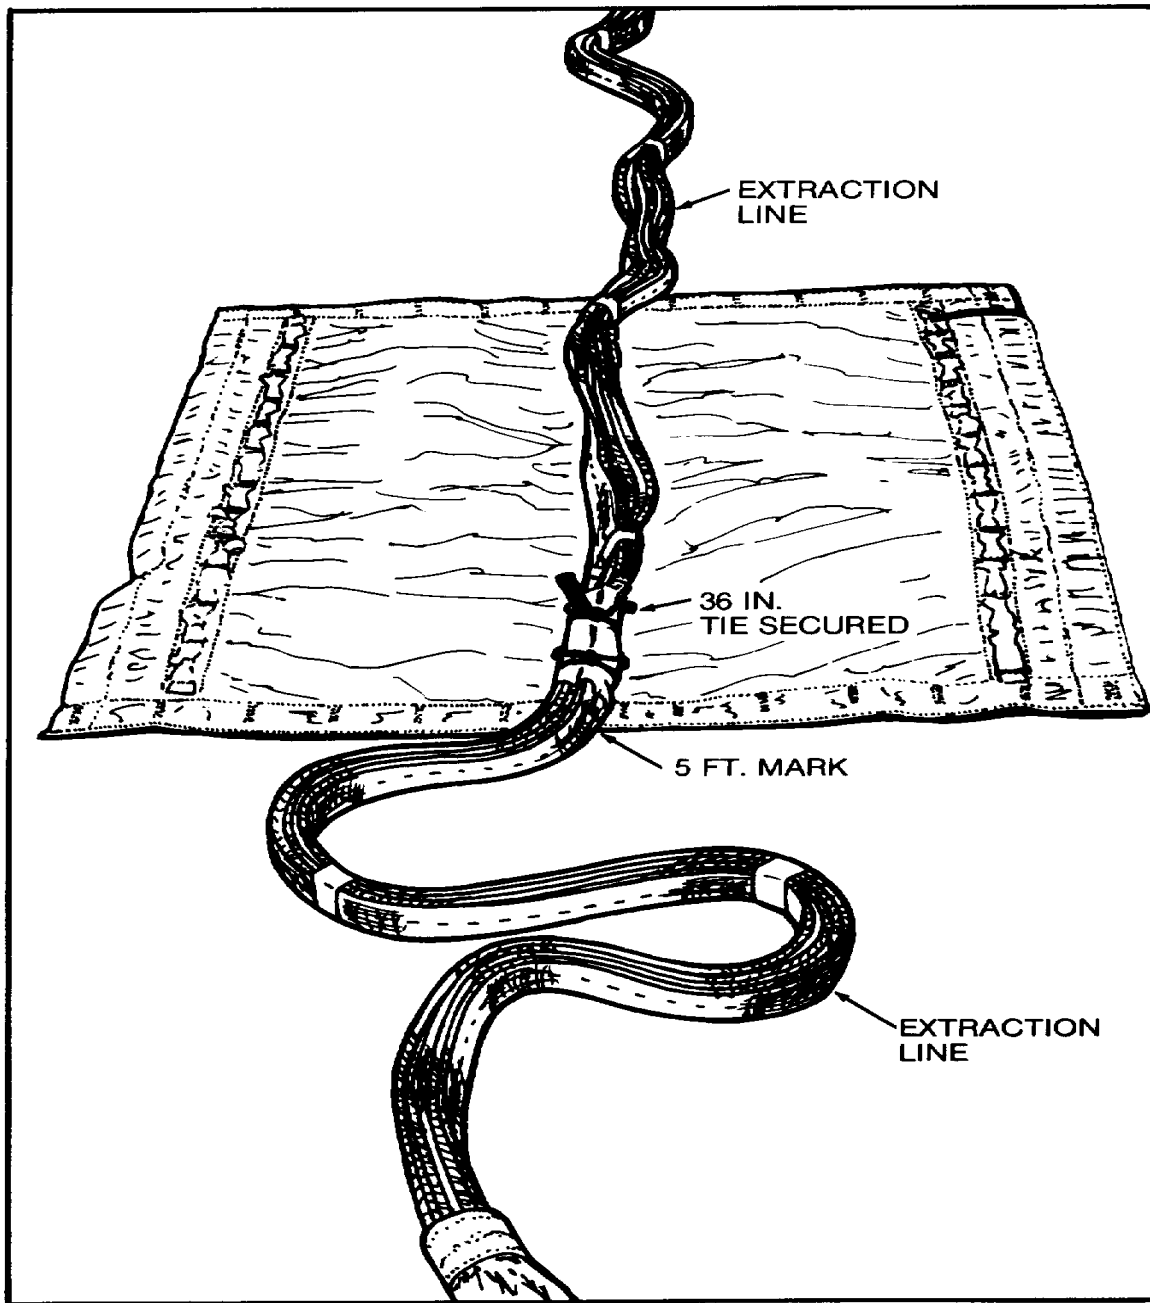

Figure 3. Extraction Line Secured to Bottom Panel.
- c. Pass running ends of 38-inch length of ½-inch tubular nylon webbing previously installed on panel, up between wrapped piles of extraction line, pass each running end in opposite directions, down and under stow loop and back to top of extraction line. Secure running ends on top of extraction line with surgeon's knot, locking knot, and an overhand knot on running ends (figure 3).